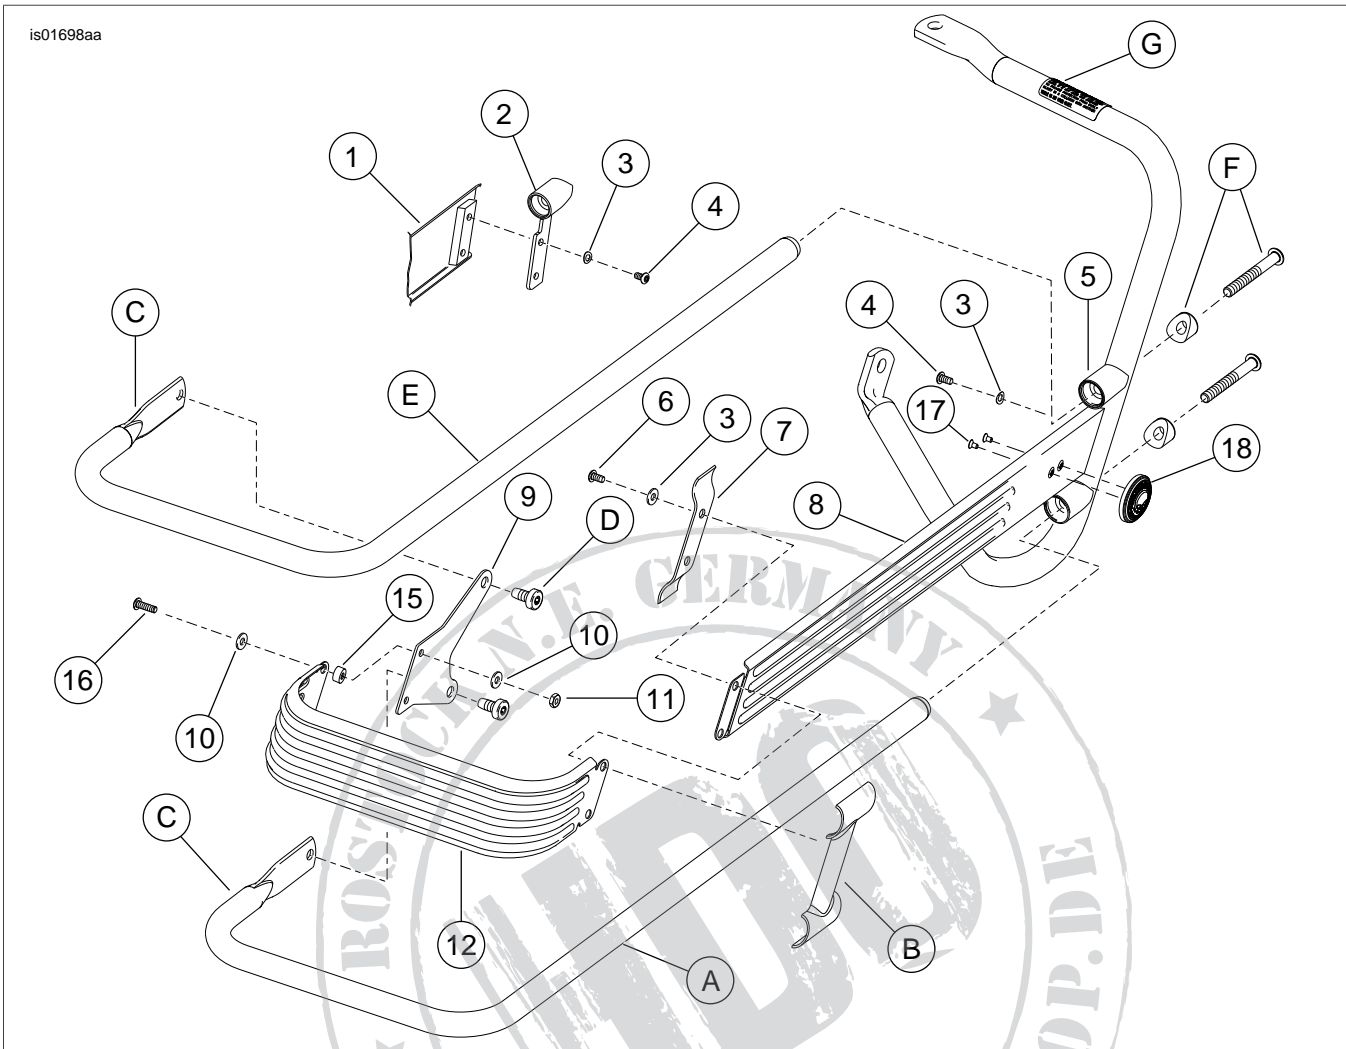

Figure 1. Service Parts: Saddlebag Guardrail Trim
See Figure 1 and Table 1.
2. See Figure 1 and Table 1. Remove the screws fastening the stock upper front guardrail mounts to the guard rail. Discard the stock upper front guardrail mounts.
4. Loosely fasten the rear inside brackets (9) to the guardrail rear trim (12) using screws (16), spacers (15), flat washers (10), and keps nuts (11) as shown.
8. Position the rear inside brackets (9), with rear trim loosely attached, on the outboard side of the stock upper and lower guardrail tabs. Loosely fasten the rear inside brackets (9) to the guardrail tabs and vehicle using the screws removed in step 7.
9. Loosely fasten the side and rear trim flanges between the stock outer guardrail bracket and the new inner guardrail brackets (7, 13) using screws (6) and wave washers (3).
10. If using **Kit 90255-09**, attach the skull medallions (18) securely with flat head screws (17) to the side trim rail inserts.
11. Align all installed components and use the Allen wrench (14) from this kit to tighten the fasteners.